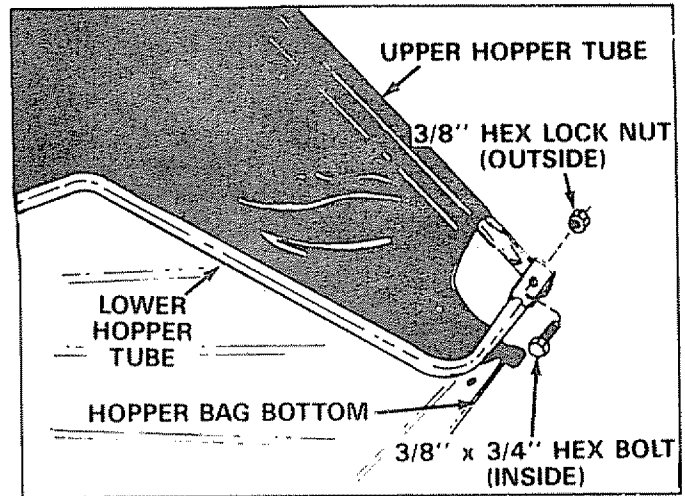

FIGURE 15
- Place assembled lower hopper tubes into bottom of hopper bag. See figure 15.
- Assemble the upper and lower hopper tube ends together with two 3/8" x 3/4" hex bolts (inside) and 3/8" hex lock nuts (outside). See figure 15. Do not overtighten to allow for pivot.